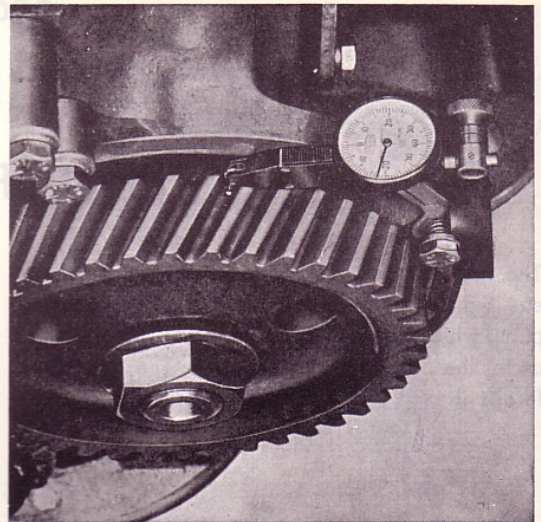

Fig. 52. Measuring the tooth flank clearance
7. Measure the tooth flank clearance as shown in Fig. 52. Also measure the end float of the camshaft, this being determined by means of a spacer ring behind the camshaft gear. See "Specifications" for the current values.